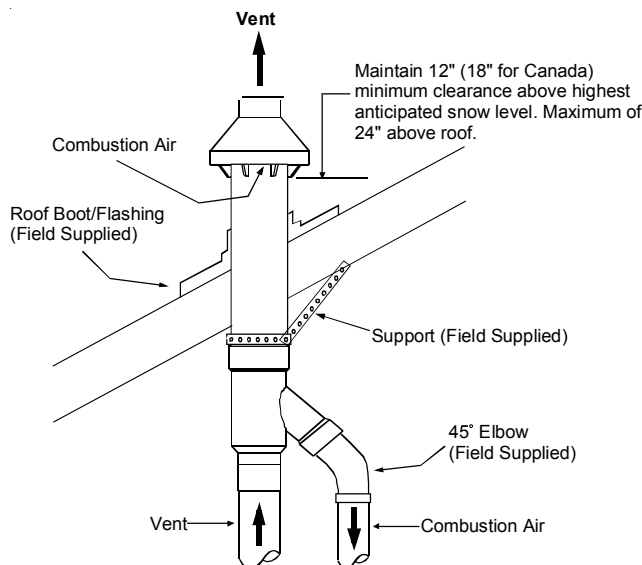
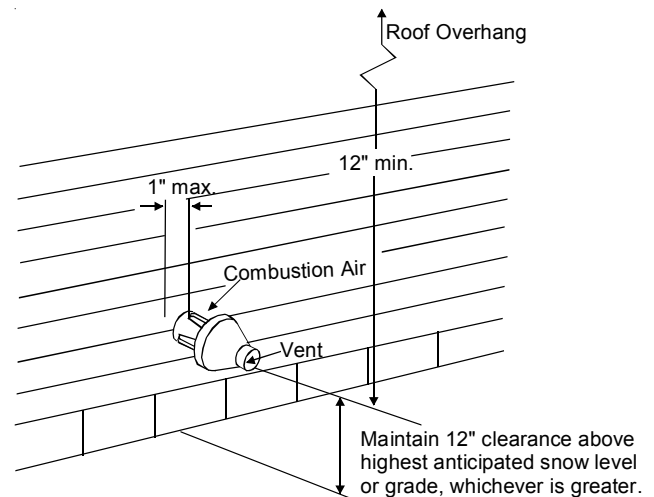
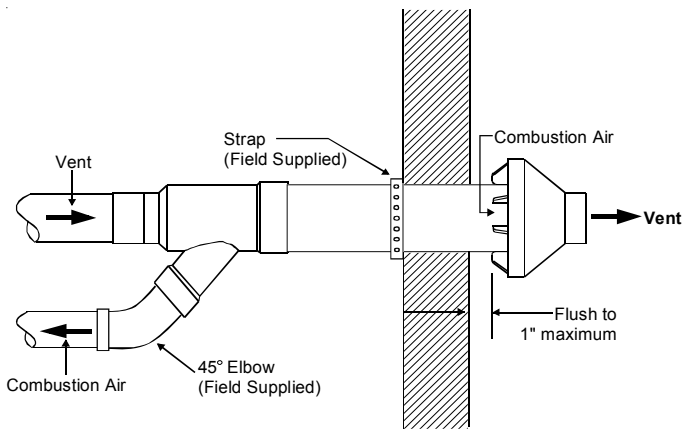

FIGURE 3
FIGURE 6
FIGURE 7
2. Determine the best location for the termination kit. See Figure 3 for vertical termination or Figure 6 and Figure 7 for horizontal termination. Roof termination is preferred since it is less susceptible to damage, has reduced intake contaminants and less visible vent vapors. For side termination, consideration should be given to:
7. Secure the assembly to the structure as shown in Figure 3 or Figure 7 using field supplied metal strapping or equivalent material.
- Ensure the termination height is above the roof surface or anticipated snow level as shown in Figure 3 for vertical termination.
- Ensure the termination location clearance dimensions are as shown in Figure 6 and Figure 7 for horizontal termination.
9. Cement the furnace combustion air and vent pipes to the concentric vent termination assembly. See Figure 3 or Figure 7 for proper pipe attachment.